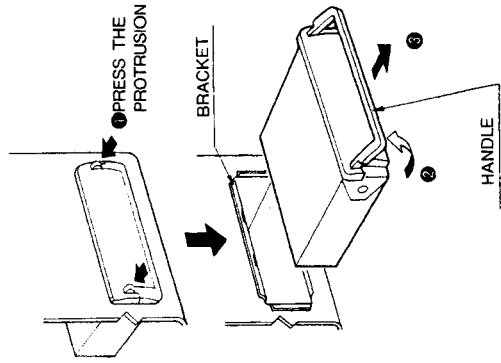

Fig. 1
2. Press the protrusion on the handle, and the handle lifts up. (Fig. 1, ①, ②)
3. Remove the unit from the bracket by pulling the handle firmly. (Fig. 1, ③)